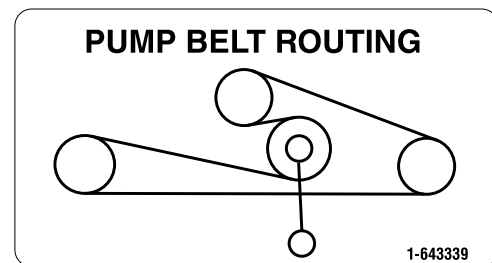

Figure 11
3. Route new belt onto sheaves as shown in the decal located on the right hand side of the left hood support (see Figure 11).